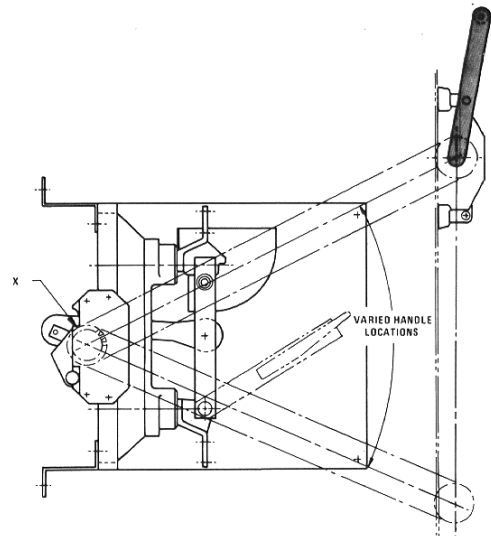

Fig. 1 Handle "UP" in switch closed position.
The component parts for this type of arrangement are shown in Fig. 1. The switch and frame are mounted vertically in the enclosure. The arc chute interrupter is situated above the blade hinge. The switch is chain driven with the handle located on the left front of the enclosure. Normally, the handle is in the "up" position with switch closed.
- Assemble the chain drive sprocket kit (Mk 302, Dwg. 316-557, sprocket, washer and retaining ring) on the stored-energy device of the switch at the left as shown at (X) in Fig. 1. Make sure HUB of sprocket is next to side plate of mechanism.
- Mount the frame-mounted switch (Fig. 1) in the enclosure.